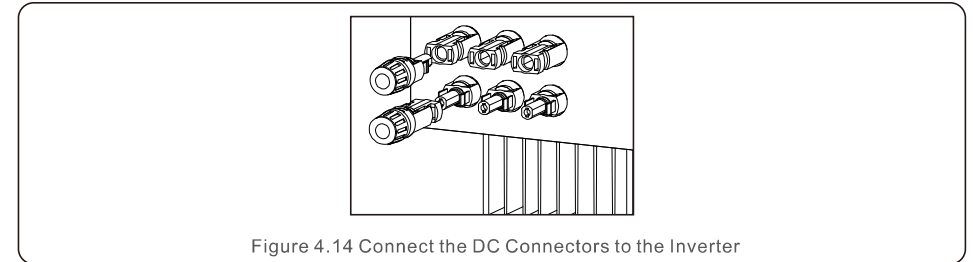

Figure 4.14 Connect the DC Connectors to the Inverter
5. Then connect the DC connectors to the inverter. Small click will confirm connection. (see figure 4.14)